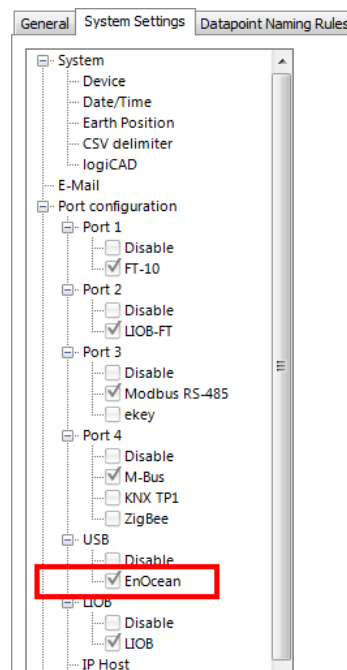

Figure 159: Enabling EnOcean in the Project Settings Dialog.
2. In the **System Settings** tab enable the EnOcean protocol on the USB port, as shown in Figure 159.